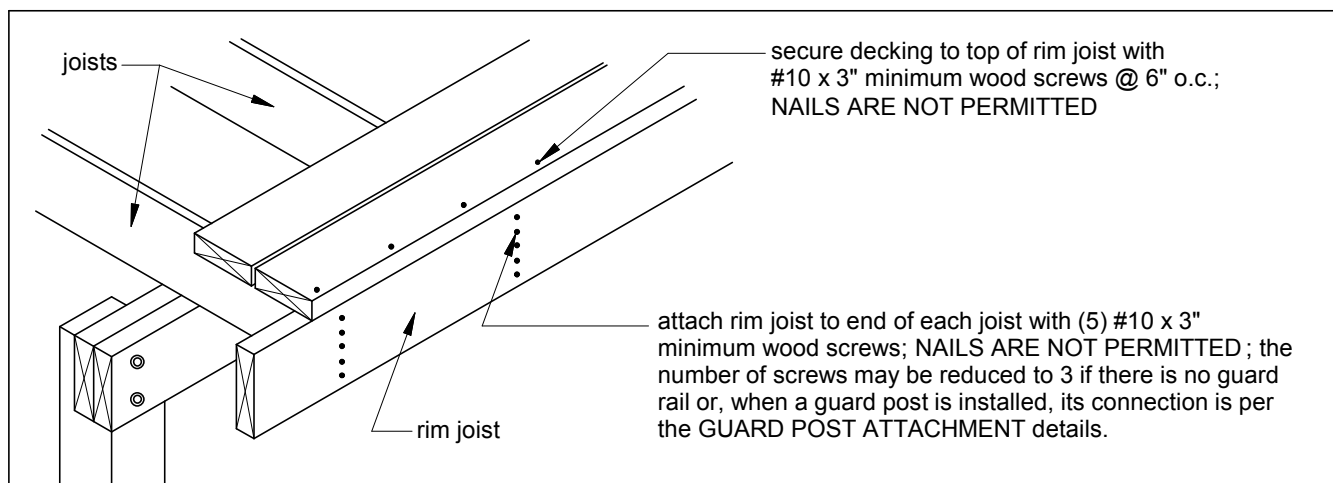

FIGURE 11: RIM JOISTS CONNECTION DETAILS
All decking material shall be composed of 2x6 or $\frac{5}{4}$ ("five-quarter") board. Attach decking to each joist with a minimum of (2) 16d nails for 2x6 lumber, or (2) 8d nails for $\frac{5}{4}$ lumber, or approved screws. A wide variety of proprietary screws and nails, and other speciality fasteners are available. See figure 11 for decking attachment to the rim joist. Decking may be installed perpendicular to the joists or up to a 45° angle to the joists.
Attach a continuous rim joist to the ends of joists as shown in FIGURE 11. Attach decking to the rim joist as shown in FIGURE 11. For additional decking attachment requirements, see DECKING REQUIREMENTS on Sheet 2.